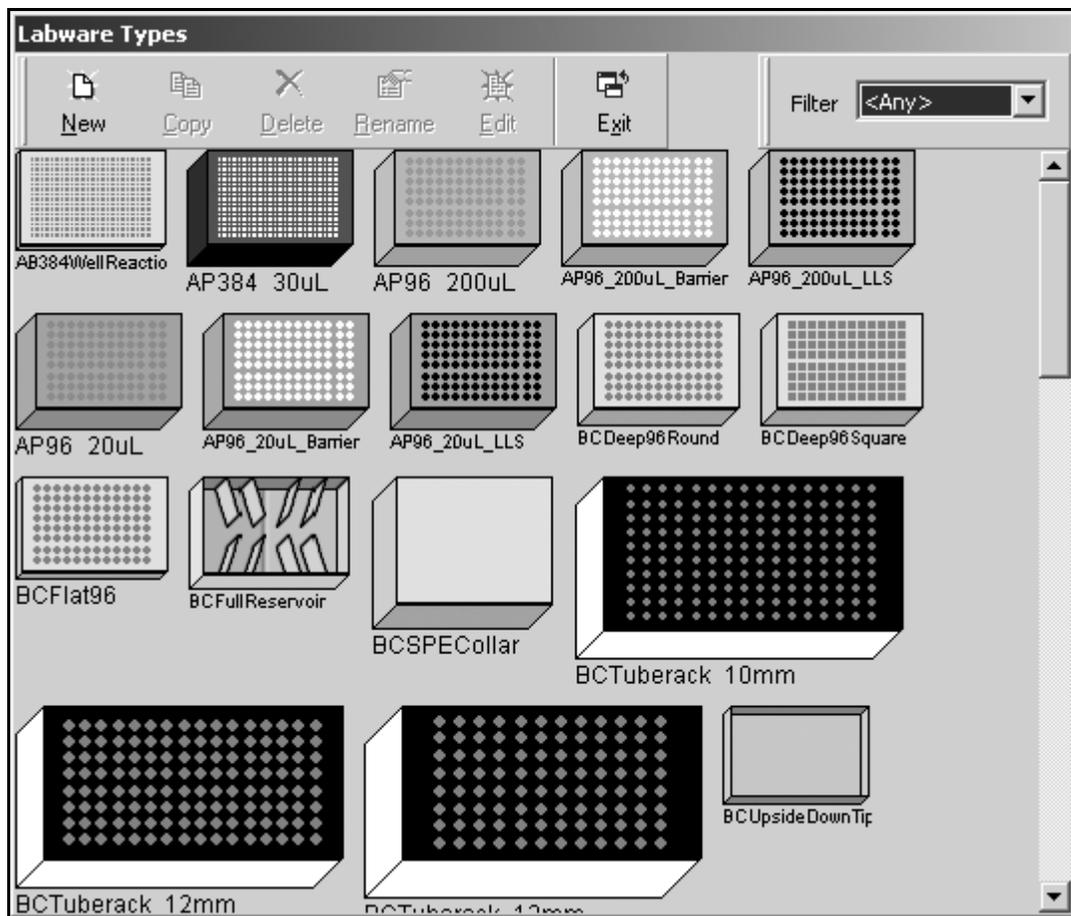

Figure 3-2. Labware Types
1. From the **Project** menu, choose **Labware Type Editor**. Labware Types appear (Figure 3-2)